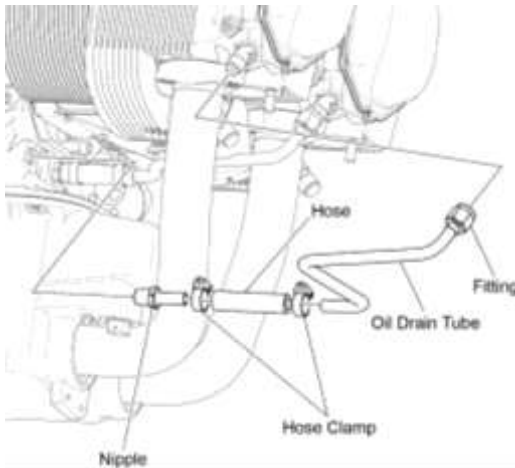

Figure 53
- (1) If a new nipple (Figure 53) is to be installed on the crankcase, apply Loctite® 564 to the threads of the nipple. Torque the nipple to 85 in.-lb. (9.6 Nm).
- (2) Connect a new hose to the nipple in the crankcase.